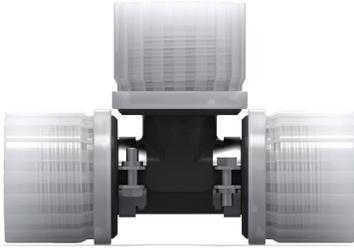

Figure 3.
**⚠ WARNING:** For tee configurations, the grounding strap can only be installed on the run legs, not on the branch, Figure 3.